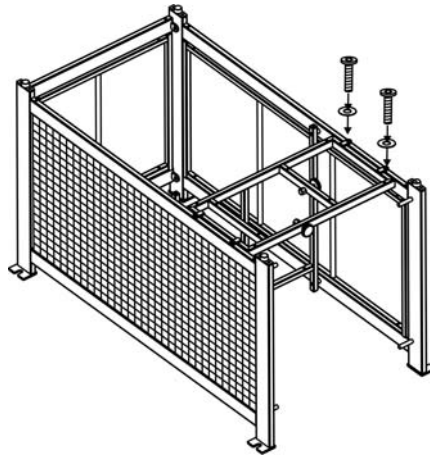

Figure 5
4. Attach the LP support frame to the side panels by using four 1/4"x30 mm bolts and Ø6.5x1.0 mm washers as shown in Figure 5. Guide the bolts through the holes in the LP support frame, into the pre-drilled holes in the side panels. **Hand tighten only.**